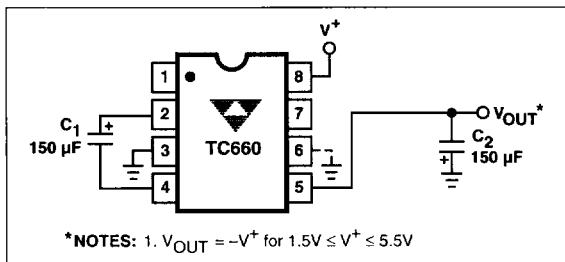
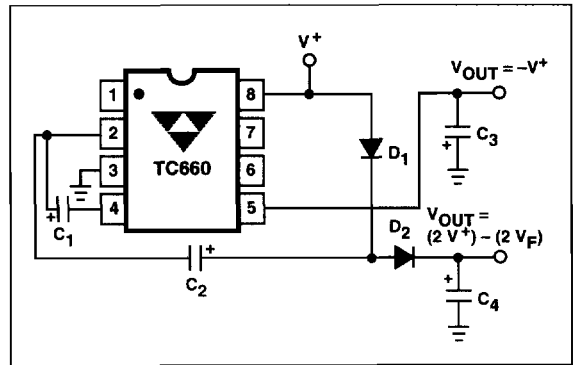

Figure 3. Simple Negative Converter
Figure 10. Combined Negative Converter and Positive Multiplier
Figure 3 shows typical connections to provide a negative supply where a positive supply is available. A similar scheme may be employed for supply voltages anywhere in the operating range of +1.5V to +5.5V, keeping in mind that pin 6 (LV) is tied to the supply negative (GND) only for supply voltages below 3.0V.
The output characteristics of the circuit in Figure 3 are those of a nearly ideal voltage source in series with 6.5Ω. Thus, for a load current of -100mA and a supply voltage of +5V, the output voltage would be -4.35V.
Figure 10 combines the functions shown in Figures 3 and 8 to provide negative voltage conversion and positive voltage multiplication simultaneously. In this instance, capacitors C1 and C3 perform the pump and reservoir functions, respectively, for the generation of the negative voltage, while capacitors C2 and C4 are pump and reservoir, respectively, for the multiplied positive voltage. There is a penalty in this configuration in that the source impedances of the generated supplies will be somewhat higher due to the finite impedance of the common charge pump driver at pin 2 of the device.